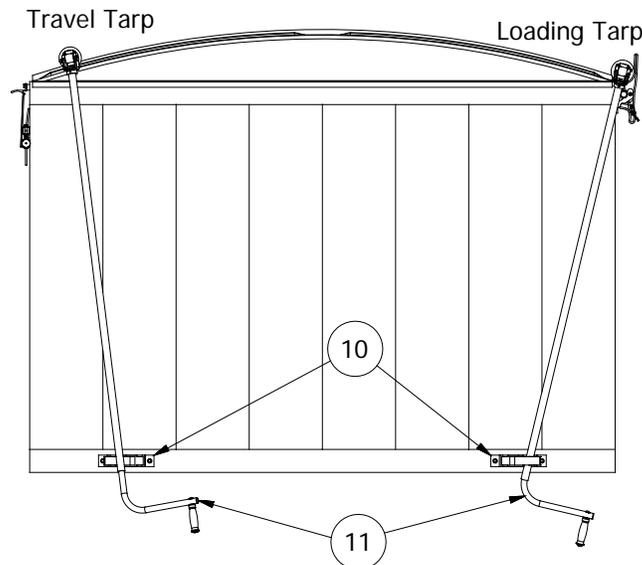

Figure 8
Procedure: Locate the front round bracket (6) 10 inches in from the face of the front of the hood and 3/4" lower than the top edge of the trailer. Using a 5/16" drill bit, drill two holes through the predrilled holes in the bracket and into the trailer. Secure the bracket to the trailer using two 3/8" X 1\_1/4" self-threading bolts (5) provided. Remove the 1/4" X 3" hex bolt (7) from the flip-release tarp stop (4). Insert the bolt through the bracket (6) and through the tarp stop (4). Secure using the 1/4" lock nut. Torque the bolt appropriately so the flip-release tarp stop will remain in the unlocked position (see Figure 8). Remove the quick pin from the bottom hole of the flip-release tarp stop and adjust the tarp stop so it is in the unlocked position (see Figure 8). Install the rear bracket 10 inches in from the face of the rear end cap and 3/4" lower than the top edge of the trailer. Evenly space the remaining flip-release tarp stops along the same side of the trailer making sure to mount the brackets 3/4" lower than the top edge of the trailer. Position the traveling tarp pipe (9) in the lower seat of the round brackets (6) (see Figure 7-8). Then place the loading tarp pipe (8) in the higher seat of the bracket. Adjust both tarps so that both tarps are two inches in from the wind deflector on the front hood. Once the tarps are in position, engage the stops into the locked position. Reinsert the quick pins through the bottom holes in the round flip-release stops. Place the travel tarp on top of the trailer on the side with the tarp stops and unroll it some towards the middle of the trailer. The travel tarp has reinforcements and 1 center in it. With it unrolled some, pull the small quick release pipe and tarp down into the tarp stops. Place the loading tarp on top of the travel tarp on top of the trailer and unroll it towards the middle as well. The loading tarp has 2 loading holes and no center rod in it. With it unrolled some, pull the large quick release pipe and tarp down into the tarp stops. Position the travel tarp pipe (9) in the lower seat while the loading tarp pipe is in the higher seat of the round brackets (6). Adjust both tarps so that both tarps are two inches in from the wind deflector on the front hood. Once the tarps are in position, engage the stops into the locked position. Reinsert the quick pins through the bottom holes in the round flip-release stops.
(See Figure 8)